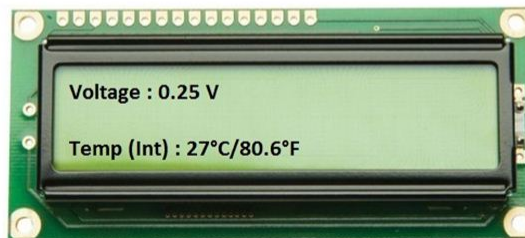

Figure 2: Alternating sensor display values
2. Next, interface an external LM35 temperature sensor with the board and display the temperature on the LCD. Use the switch "sw1" to switch between internal and external temperature readings. The display should show external sensor readings by default and switch to internal when "sw1" is pressed once, on the next press the display should return to default (show external temperature readings). Figure 2 below will clear things out.